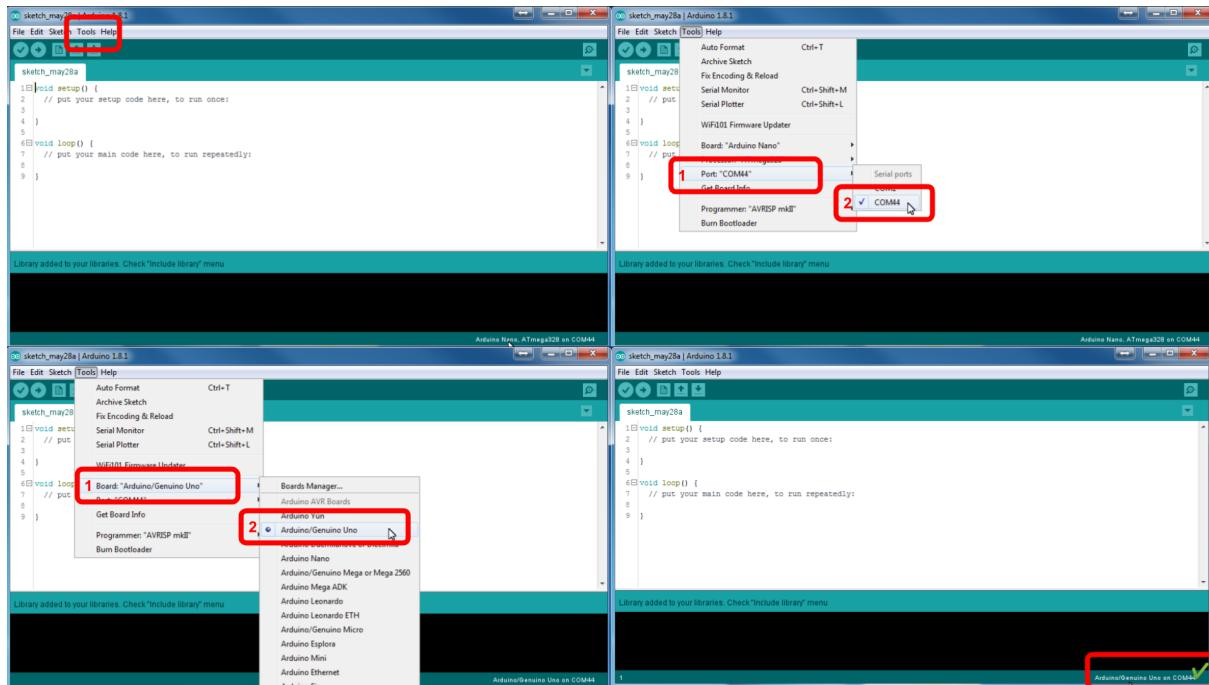

Figure 2.4: Arduino basic setup.
3. Make shure that you will set the proper settings (see fig. 2.4). From the menu choose: